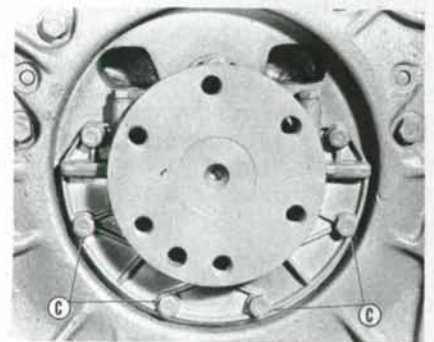
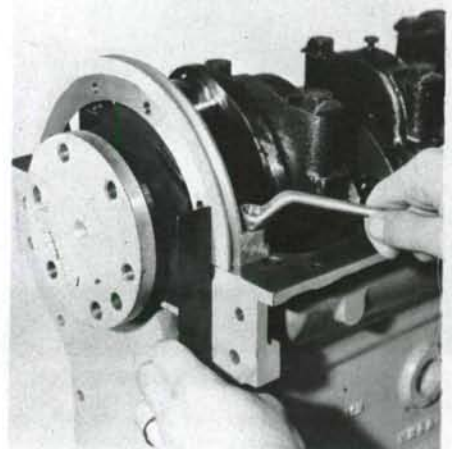

Fig. 75—Installed view of rear oil seal. The four cap screws (C) are sealed with aluminum washers.
Fig. 76—When installing rear oil seal housing, use a straightedge as shown to make sure rear edge is flush with block rear face.
**67.** Use a straightedge as shown in Fig. 76 when installing oil pan seal housing to make sure rear face of housing and block are flush. Coat both sides of retainer gasket and end joints of retainer halves with a suitable gasket cement. Coat shaft surface of rope seal with graphite grease. Install retainer halves and all cap screws loosely, then tighten clamp screws to 8 N·m (6 ft.-lbs.) torque before tightening the retaining cap screws gradually to 16 N·m (12 ft.-lbs.) torque. Then, finish tightening clamp bolts to 16 N·m (12 ft.-lbs.) torque. The four lower cap screws (C—Fig. 75) are